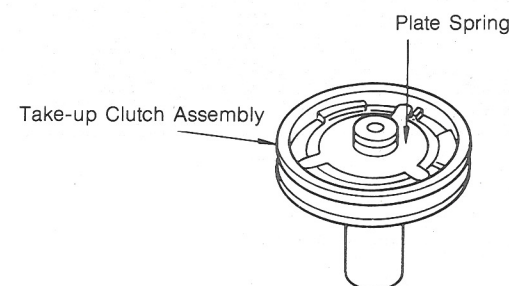

FIG. 16
- c) Change take-up clutch tension by turning the friction spring under reel table, as shown in Fig. 16, and/or